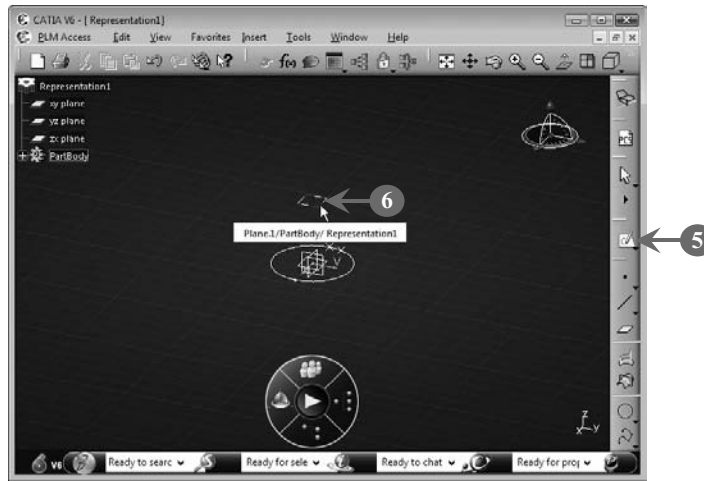

FIGURE 5.97
The sketching plane is created (**Figure 5.97**).
5. *Click* the **Sketch** button on the **Sketcher** toolbar to draw the sketch of the profile of the desired multi-sections surface (**Figure 5.97**).
6. *Select* the sketching plane, as shown in **Figure 5.97**: